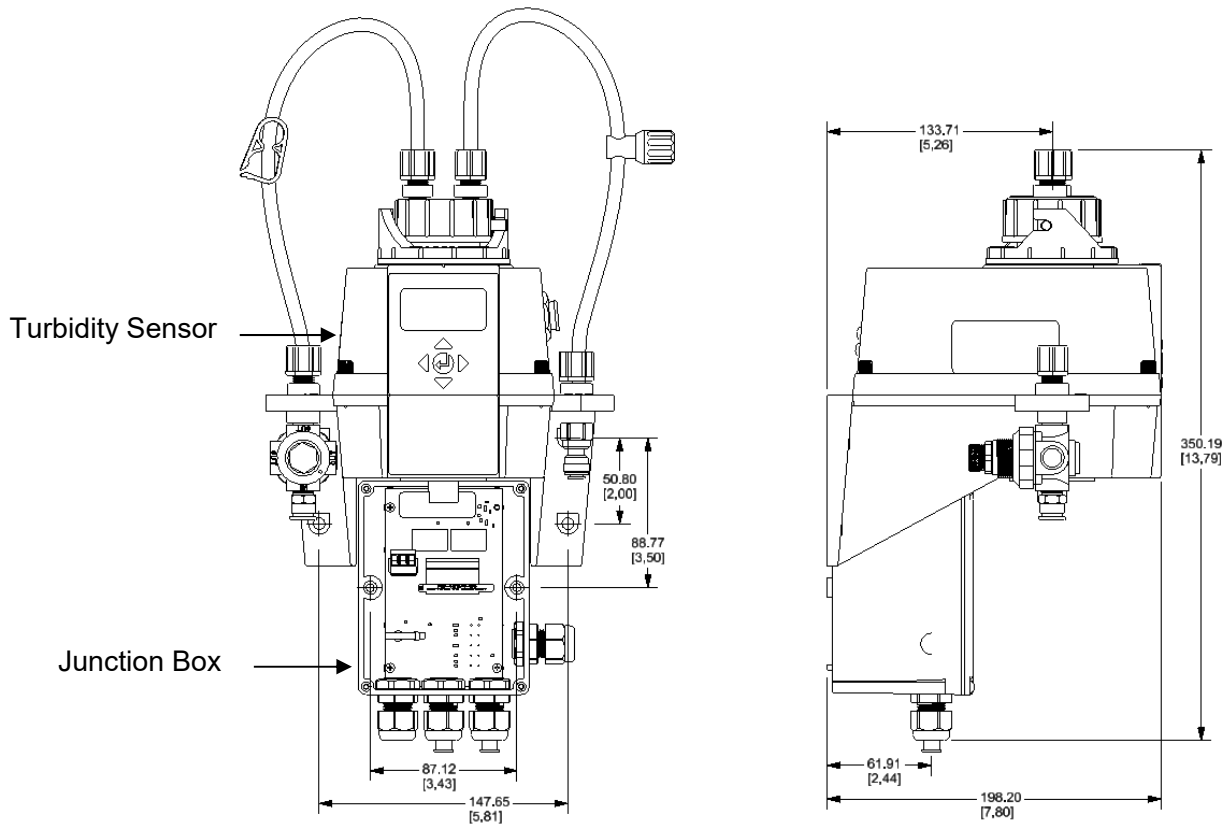

Figure 3: Mounting Dimensions of the Instrument
2. The overall mounting dimensions of the Turb PLUS 2000 are shown in Figure 3, below. Measure to confirm that the mounting location has sufficient space and that there is at least 20 cm (8 in) free area above the instrument when mounted. This will ensure enough room for calibration and cuvette maintenance.